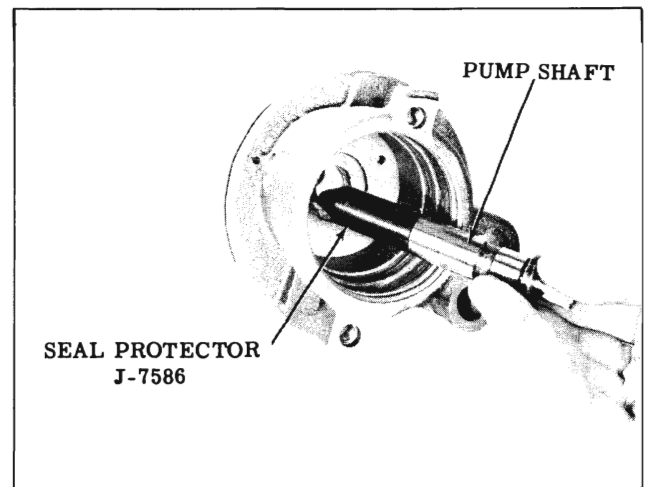

Fig. 4-30 Installing Pump Shaft
3. Place Seal Protector J-7586 over the threaded end of the shaft, then install the shaft in the pump body. (Fig. 4-30) Remove protector.